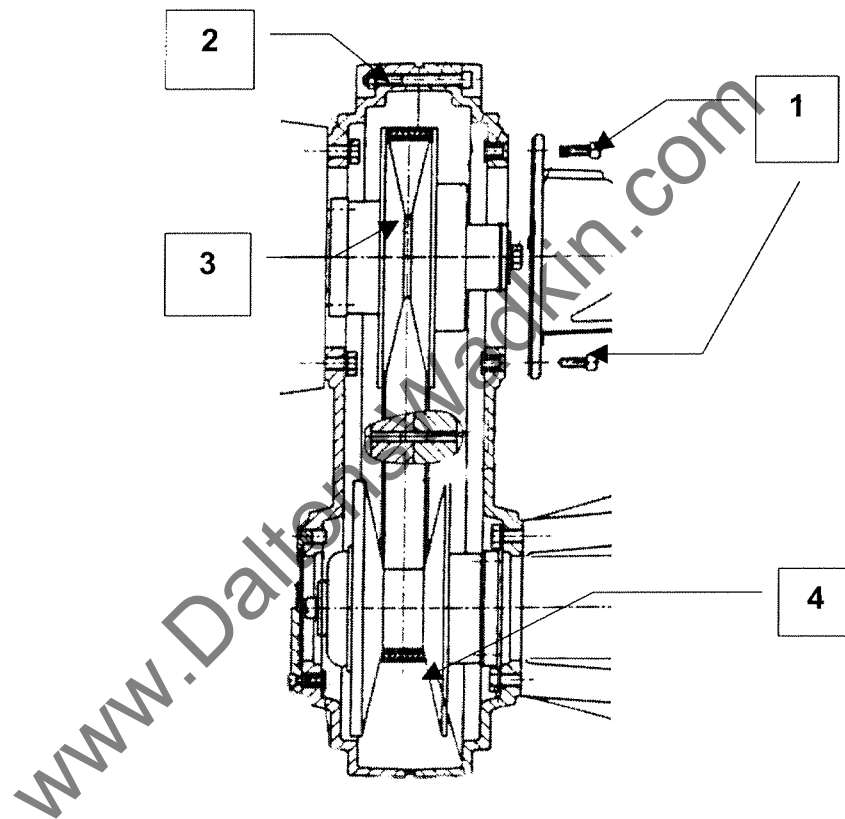

Figure 7.3.4
- 5 Remove the two axial bolts (2).
- 6 Release the two banjo barrel clamp nuts (3).
- 8 Slide the banjo and motor towards the axial nut block and tighten nuts (3).
- 9 Tighten bolts (2).
7.3.4 **Replace Variable Speed Drive Belt (Figure 7.3.4)**